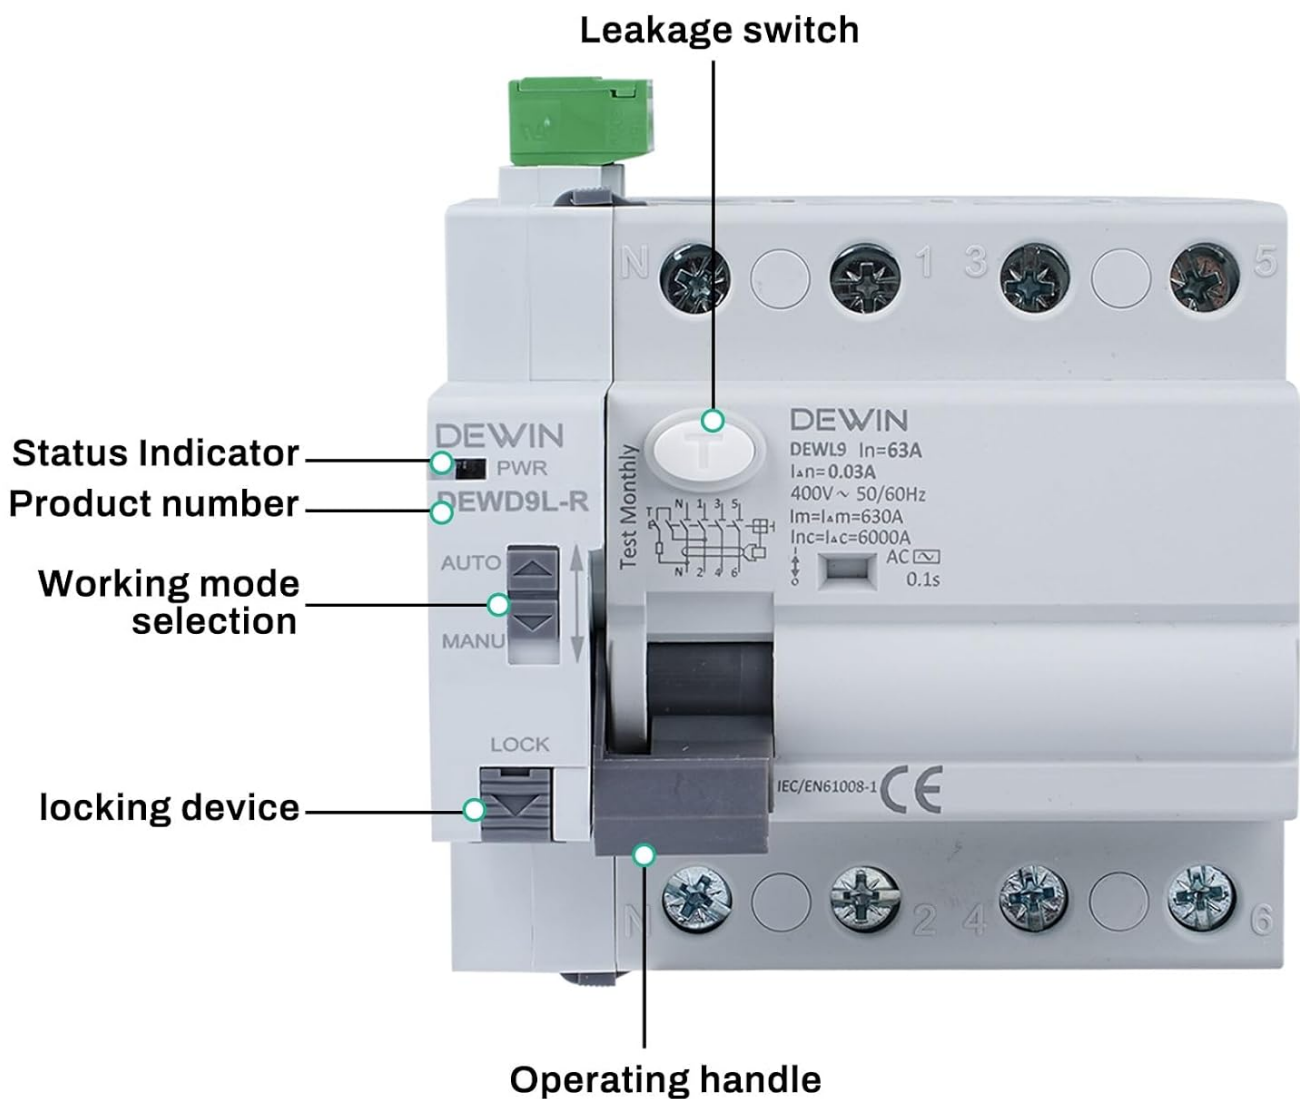

Figure 1: Panel Introduction
- Refer to the panel introduction (Figure 1) for the location of the status indicator.
It is recommended to press the 'Test Monthly' button (refer to Figure 1) at least once a month to ensure the leakage protection function is operating correctly. If the device does not trip when the test button is pressed, it may be faulty and should be inspected by a qualified electrician.